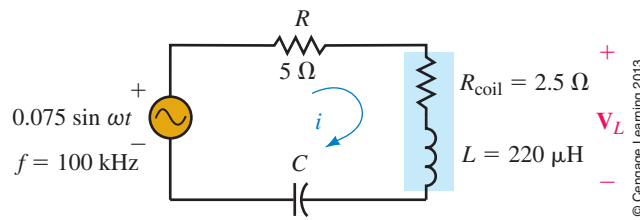

FIGURE 21-49
4. Refer to the circuit of Figure 21-49.